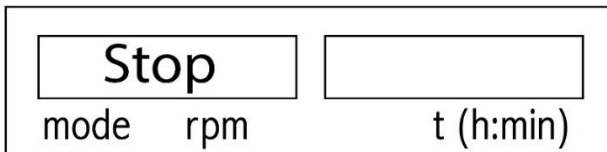
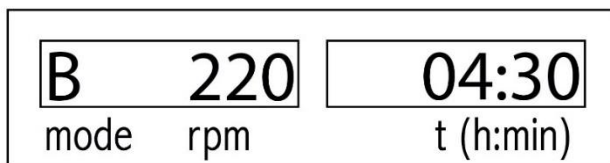

Figure 19: Operating Mode B – device is stop working
Figure 20: Operating Mode B – device is ready to work
- When the device is rotating, by pushing the left rotary knob the device will stop working after few seconds while displaying "Stop" word (figure 19) on the display. Now device is ready to work again. (figure 20)